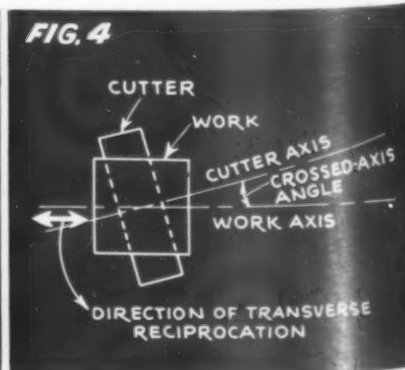

FIG. 4
3. TRANSVERSE—(Fig. 4) infeed; rapid approach plus a slower intermittent infeed. For finishing widest face gears (up to 15" face) with narrow cutters.